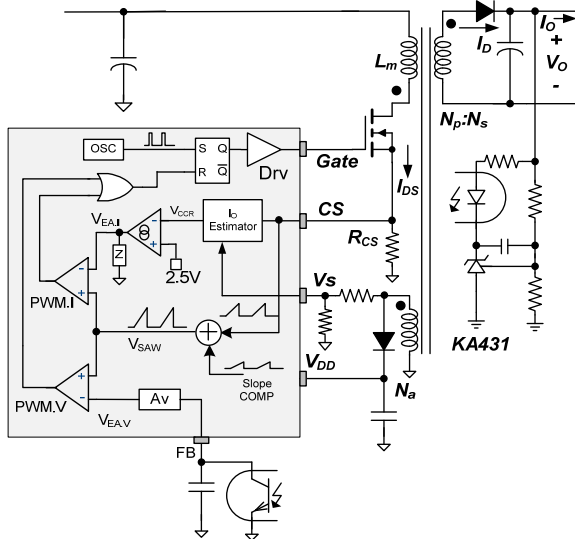
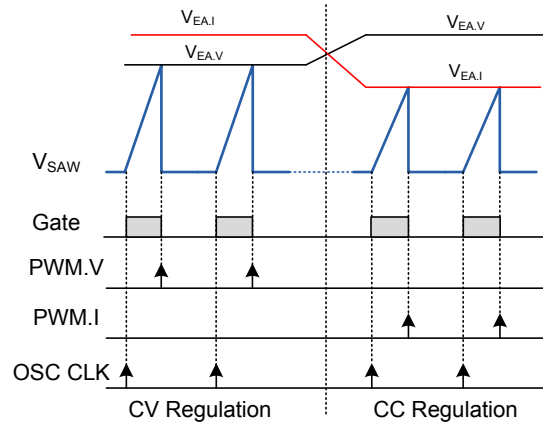

Figure 24. Internal PWM Control Circuit
Figure 25. PWM Operation for CC and CV
Figure 24 shows the internal PWM control circuit. The Constant Voltage (CV) regulation is implemented in the same way as in a conventional isolated power supply, where the output voltage is sensed using a voltage divider and compared with the internal 2.5 V reference of shut regulator (KA431) to generate a compensation signal. The compensation signal is transferred to the primary side using an opto-coupler and scaled down through an attenuator, Av, generating V_{EA,V} signal. Then, the error signal V_{EA,V} is applied to the PWM comparator (PWM.V) to determine the duty cycle.
The two error signals, V_{EA,I} and V_{EA,V}, are compared with an internal sawtooth waveform (V_{SAW}) by PWM comparators PWM.I and PWM.V, respectively, to determine the duty cycle. Figure 24 shows the outputs of two comparators (PWM.I and PWM.V) combined with OR gate and used as a reset signal of flip-flop to determine the MOSFET turn-off instant. Of V_{EA,V} and V_{EA,I}, the lower signal determines the duty cycle, as shown in Figure 25. During CV regulation, V_{EA,V} determines the duty cycle while V_{EA,I} is saturated to HIGH. During CC regulation mode, V_{EA,I} determines the duty cycle while V_{EA,V} is saturated to HIGH.